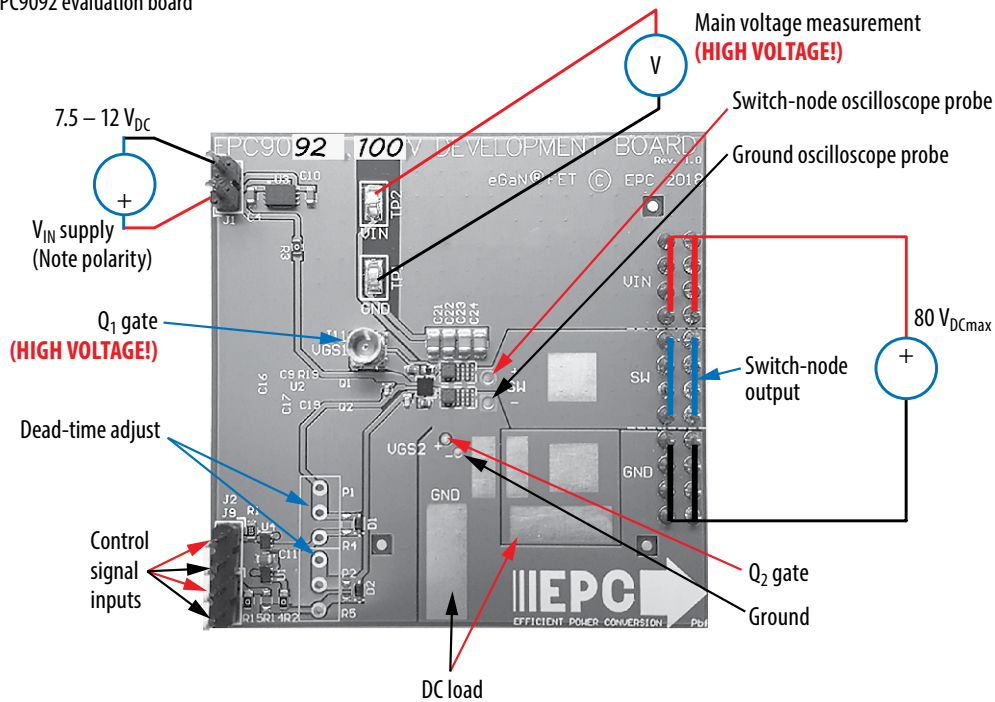

Figure 2: Proper connection and measurement setup
Evaluation board EPC9092 is easy to set up to evaluate the performance of two EPC2052 eGaN FETs. Refer to figure 2 for proper connect and measurement setup and follow the procedure below:
2. With power off, connect the switch node (SW) of the half bridge OUT (J3, J4) to your circuit as required (half bridge configuration). The EPC9092 features an optional buck converter configuration, as shown in figure 2, with unpopulated footprints for an output inductor and output capacitors.